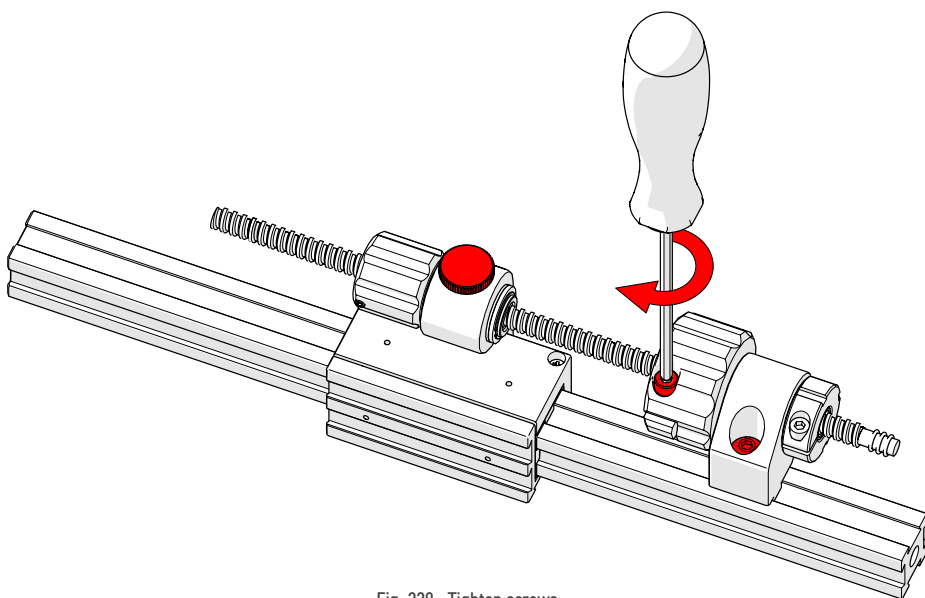

Fig. 228 - Tighten screws
7. Tighten the main knob's hexagonal screw and lock screw, as well as tighten the slider lock knob (Fig. 228 - note red highlight).